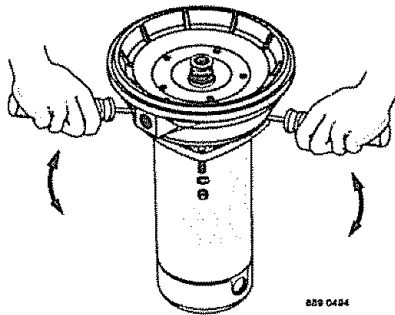

Figure 21 – Remove Seal plate
3. Unscrew four nuts holding pump back half to motor. Remove rotating half of seal by placing two screwdrivers under back half of pump body and **carefully** prying up (Figure 21). Back half of pump body will slide off shaft, bringing seal with it.